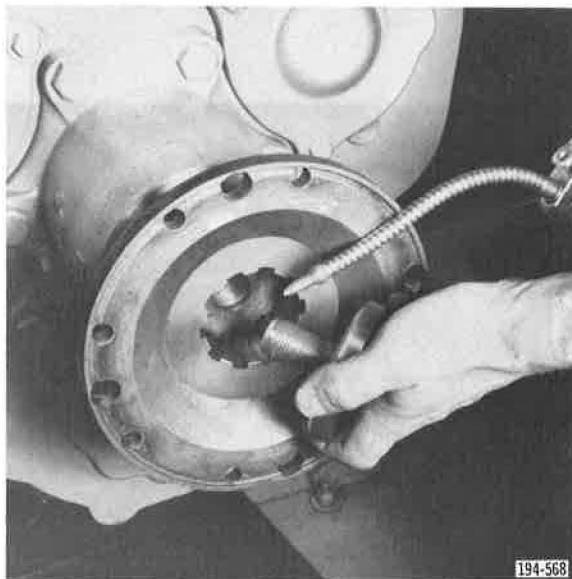

Figure 392. Lubricating Screw
7. Lubricate threads of drive flange (or yoke) clamp plate screw, and install clamp plate and screw. See Figure 392.